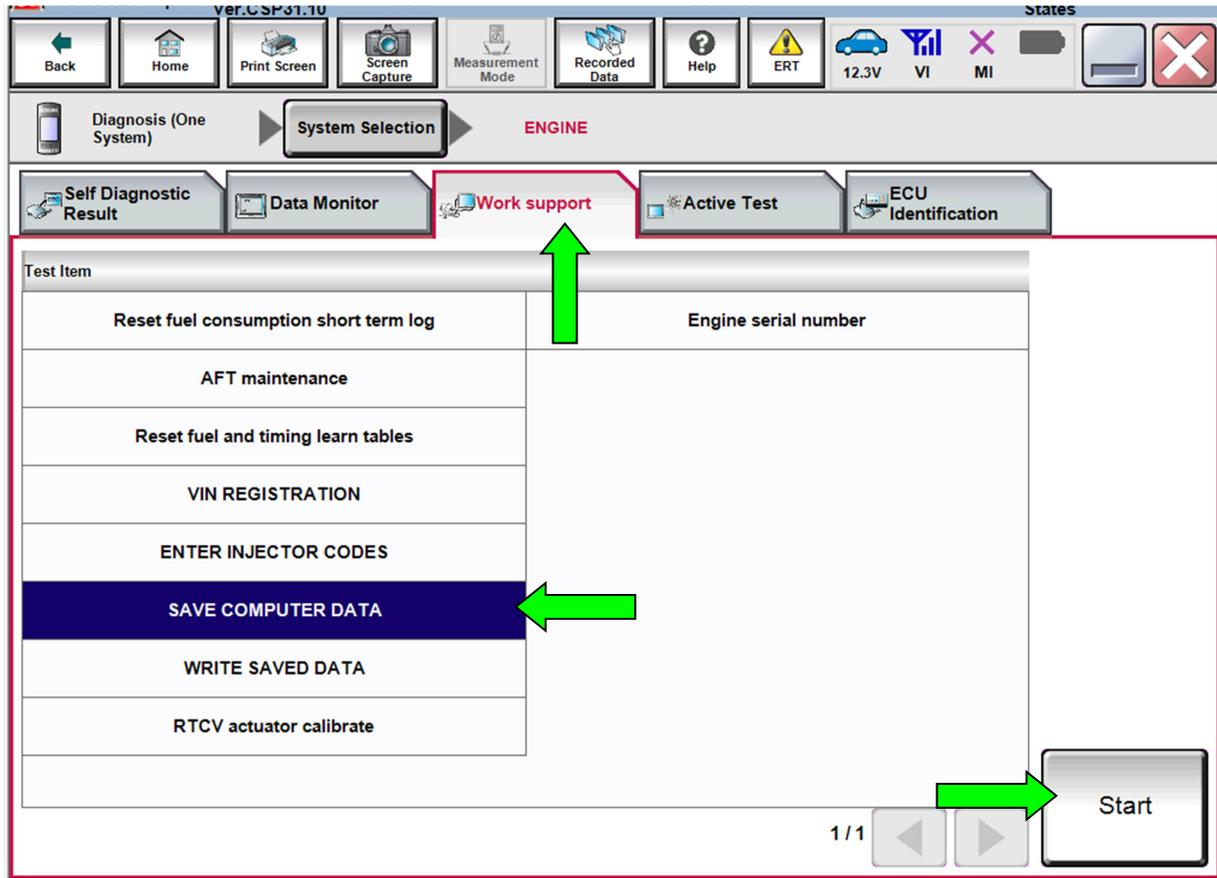

Figure 2
7. Navigate C-III plus to **ENGINE > Work support** (see Figure 2).